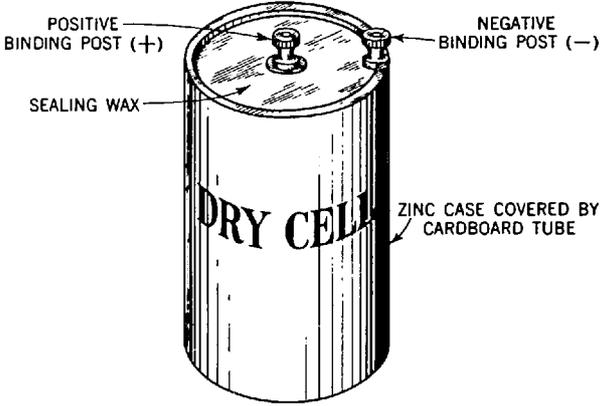

Fig. 11-1. The dry cell.
***A Dry Cell Is an Electron "Pump."*** Look at a *dry cell* (Fig. 11-1). You will notice that it is a zinc can closed at one end. The other end is sealed with some insulator such as sealing wax or pitch. In the center of the sealing wax you will notice a binding post on a carbon rod. This post may be marked *POSITIVE* or  $+$ . At the same end of the cell, but fastened to the zinc, is a second binding post which may be marked *NEGATIVE* or  $-$ . The can is filled with certain chemicals.